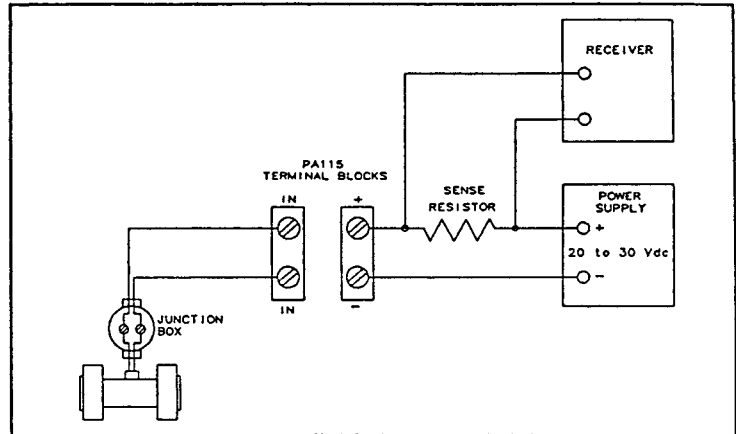

Figure 5. Wiring, remote mounting.
A remote mounted amplifier which is within three feet of the turbine meter may be wired directly to the turbine meter using the wires provided with the meter. A remote mounted amplifier which is greater than three feet from the meter is connected using 18 AWG shielded cable. The maximum length of cable between the turbine flowmeter and the PA115 is 200 feet. This type of installation will also require a junction box, item 11. See Figure 5.